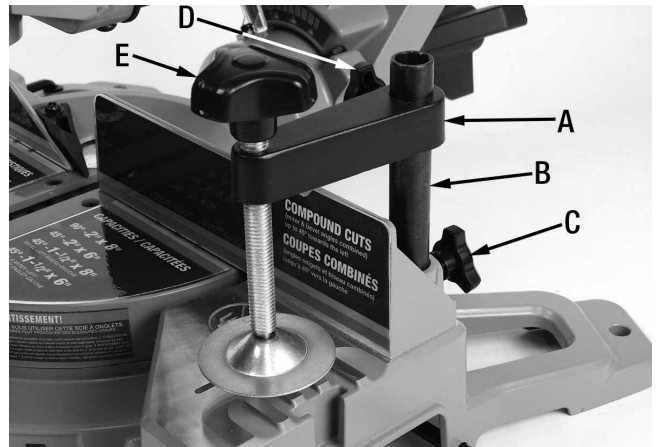

FIGURE 5
1. Insert the work clamp assembly (A & B) Fig.5 into the desired mounting hole behind the fence. Secure the assembly to the fence with a lock knob (C), make sure the lock knob tightens against the notch in the bar (B).
2. Position the work clamp (A) Fig.5 to maximize clearance from the head assembly. Loosen work clamp lock knob (D), adjust the height of the work clamp (A), tighten lock knob once height is set.
3. Turn work clamp knob (E) Fig.5 to tighten the work clamp and secure workpiece.